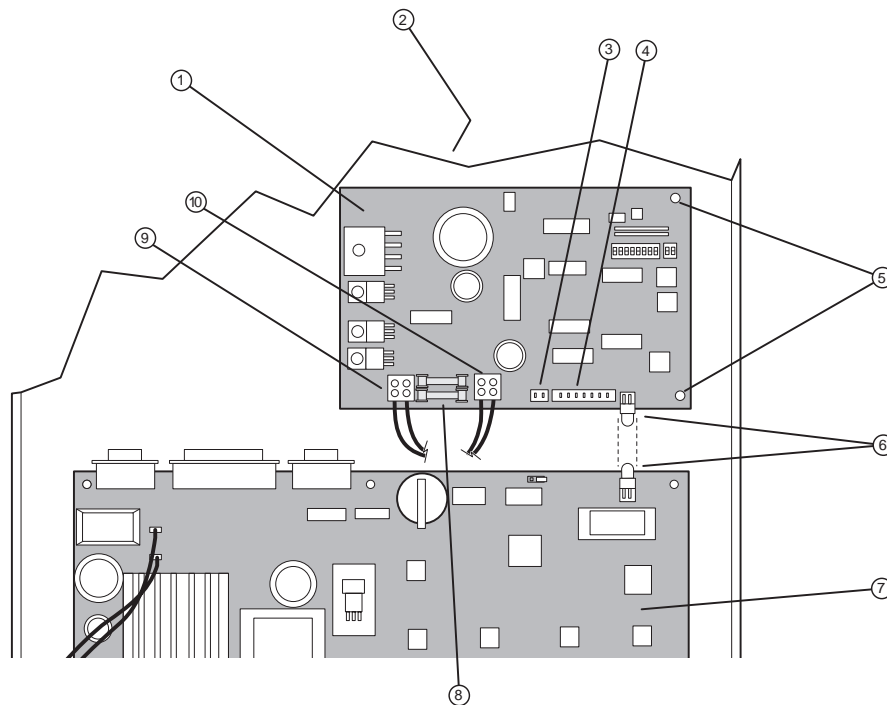

Figure 3-7 The LUTH motor control board.
2. Remove the connectors at X5 and X7. Refer to Figure 3-7.
3. Remove the connectors at X6 and X2. Refer to Figure 3-7.
4. Using a needle-nose pliers, release the two (2) nylon standoffs from the front of the board. Refer to Figure 3-7.
5. Using a phillips screwdriver, remove the mounting screws at the rear. Refer to Figure 3-7.
3. When the board is in place, make sure that the LED is in proper alignment with the CPU LED. Refer to Figure 3-7.